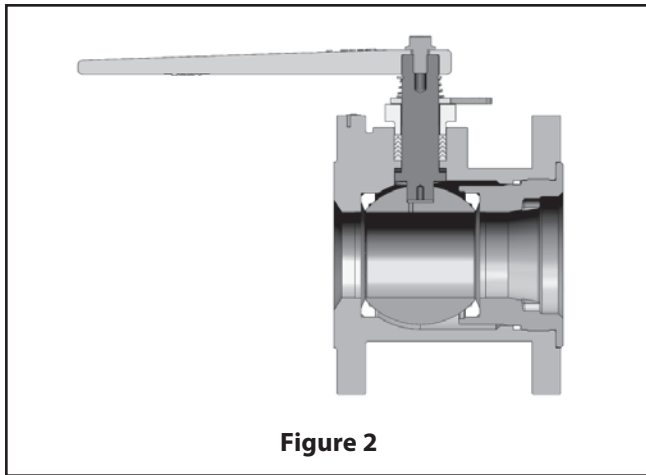

Figure 2
6. Insert the stem (5) with the bearings into the valve body and through the stem bore in the body, as shown in (**Figure 2**). Press it gently up into the stem bore until resistance is felt from the lower stem bearing. Be careful not to scratch or damage the seals.
17. Install handle (31) on the stem (5), matching flats on the stem and handle. The handle should be in the orientation as shown in **Figure 2**. Thread handle screw (35) through the handle into the stem and tighten.